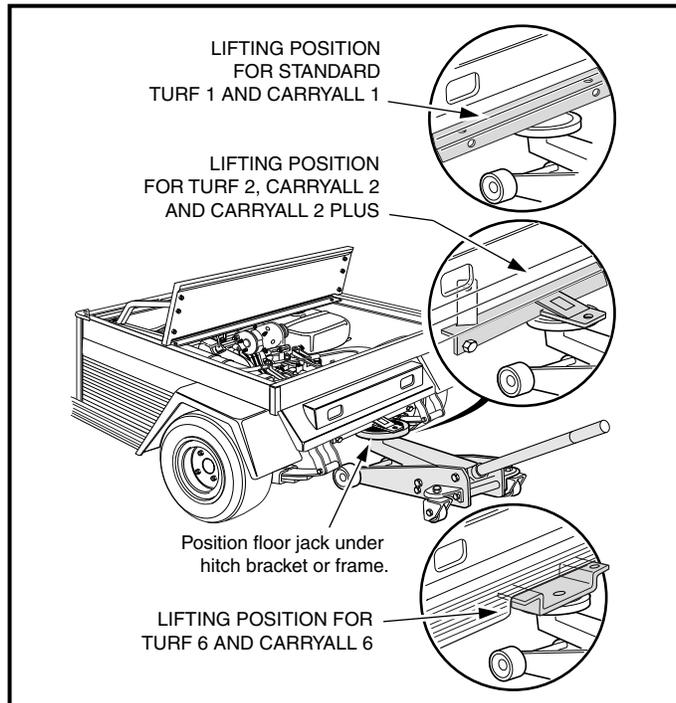

Figure 9-2 Lift Vehicle
2. Place chocks at the front wheels and lift rear of vehicle with a chain hoist or floor jack (**Figure 9-2, Page 9-2**). Position jack stands under the frame crossmember between the rear leaf spring front frame mount and the side stringer, just forward of each rear wheel. Lower the vehicle to let the jack stands support the vehicle. **See WARNING "Lift only one end of the vehicle..." in General Warning, Section 1, Page 1-2.**